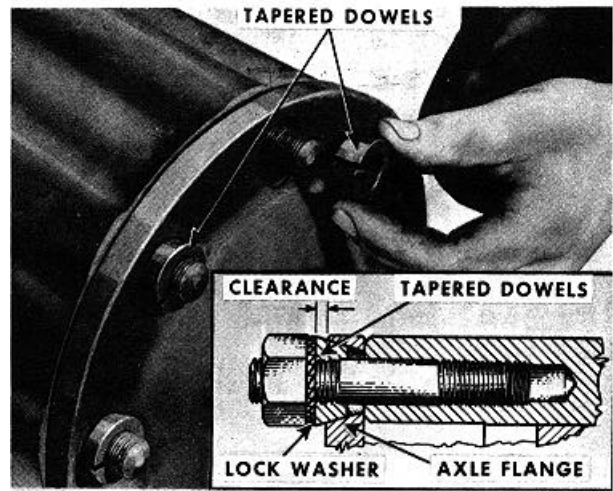

Fig. 7 Details of Taper Dowels
3. Remove the tapered dowels, Fig. 7.
axle shaft driving flange. See inset, Fig. 7. Lack of clearance at this point will cause excessive wear on studs, dowels or holes.